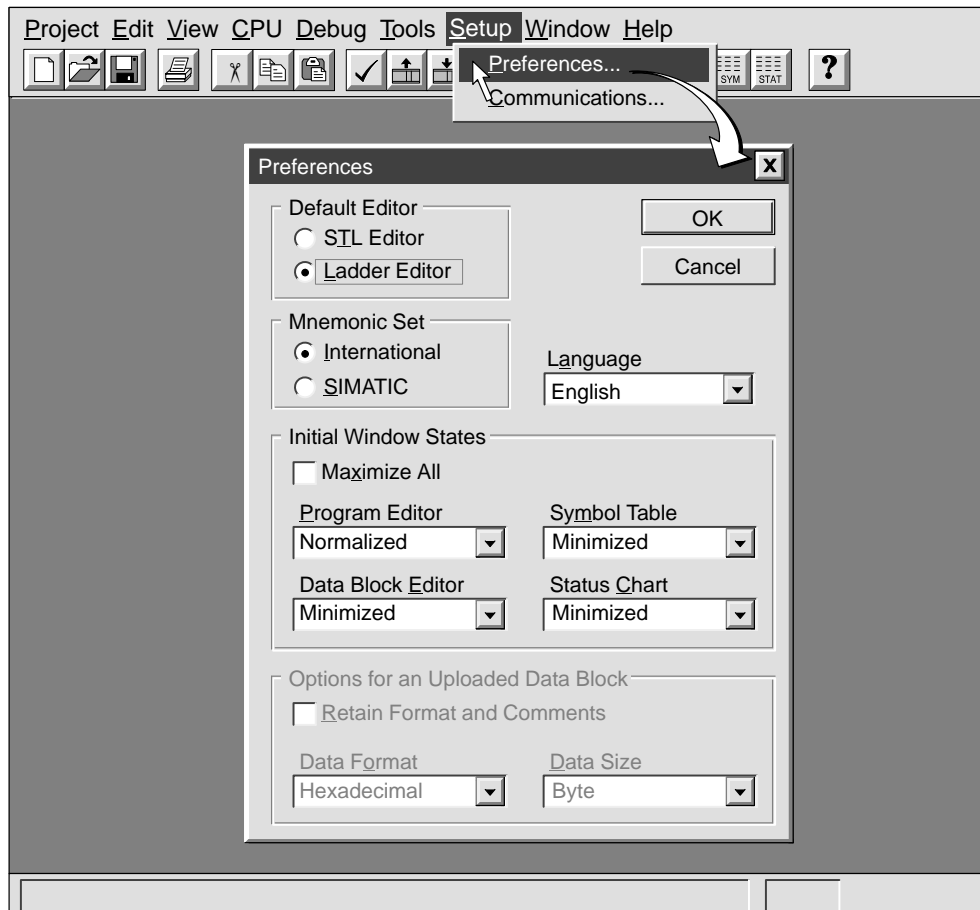

Figure 2-3 Selecting Your Programming Preferences
1. Select the menu command **Setup ► Preferences...** as shown in Figure 2-3.